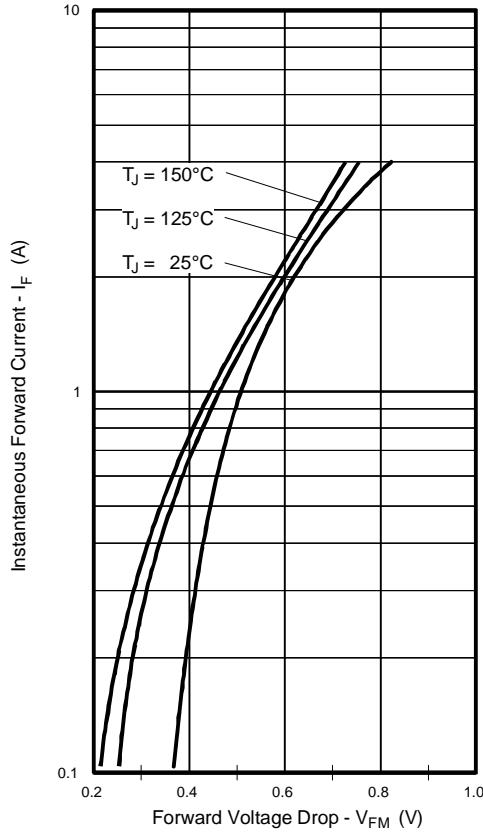

Fig. 1 Max. Forward Voltage Drop Characteristics (Per Leg)
| V_{FM} Max. Forward Voltage Drop (Per Leg) See Fig. 1 ① | 0.50 | V | @ 1.0A | $T_J = 25^\circ\text{C}$ | |